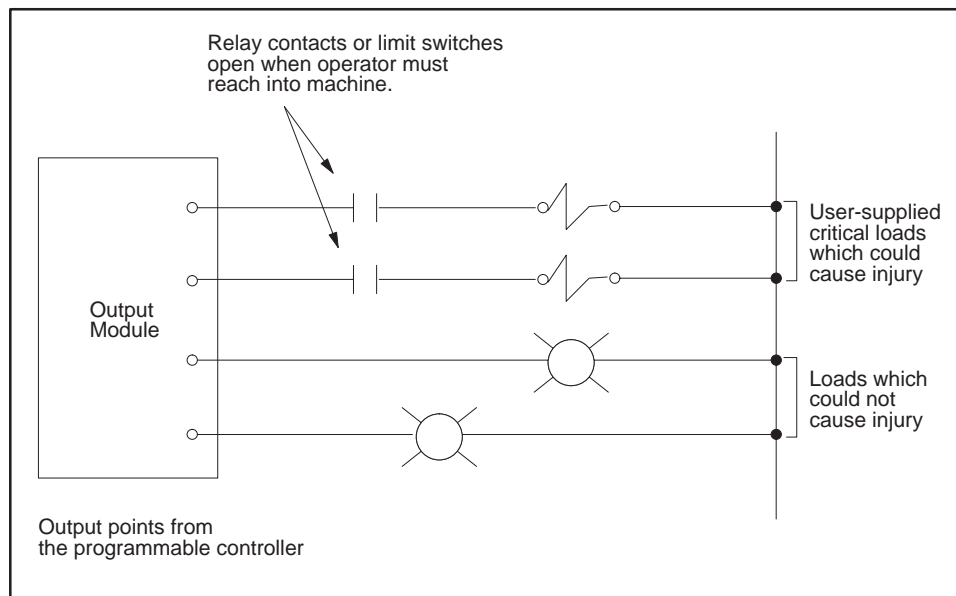

Figure 2-1 Operator Safety Switch
- Provide a means for disconnecting power—independent of the PLC—from the output loads when a machine is not operating, or when it is necessary for the operator to reach into the machine. Power must be removed by a non-semiconductor switch or a physically-wired relay contact, placed to interrupt power to the output. It is not sufficient to rely solely on the PLC for this function. Figure 2-1 illustrates an operator safety switch.